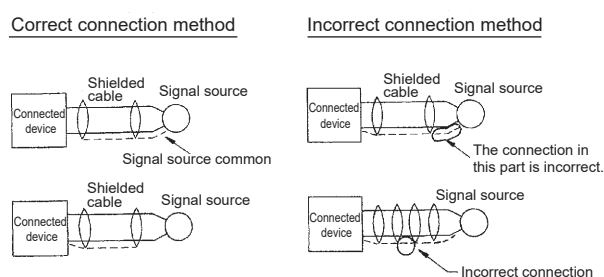

Fig. App 2.13 Shield connection method
- If the shield is connected to two or more points, circulating current flows in the shield due to the electric potential difference, and the shield becomes ineffective. This may have contrary effect depending on the electric potential difference, and caution is required. For example, when the shield is connected to the signal common cable of the signal source device, do not connect the shield to the connected device. (Refer to Fig. App 2.13.)